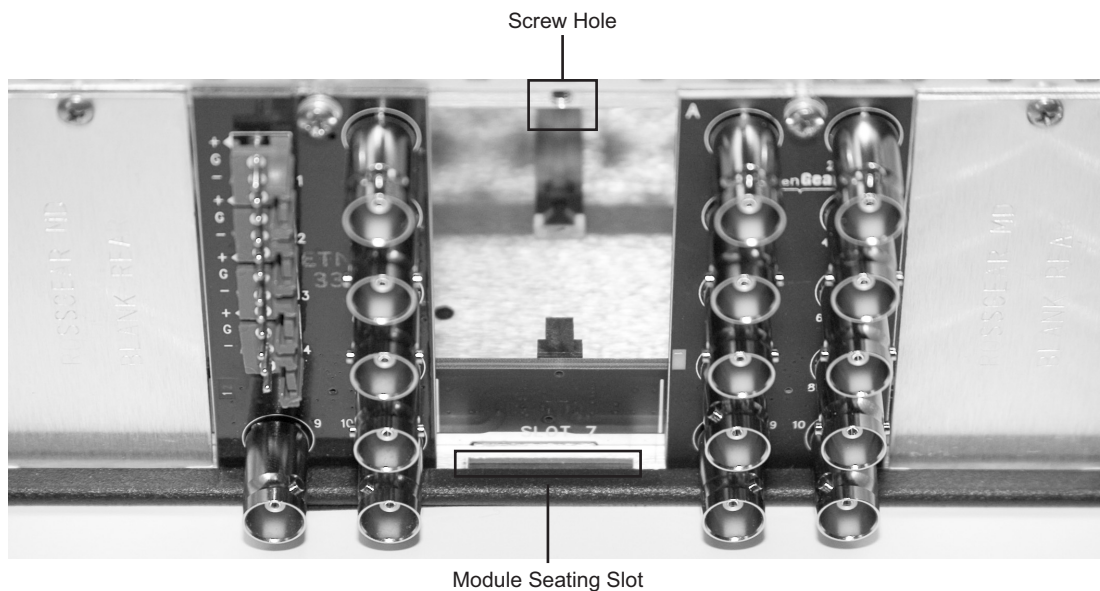

Figure 2.1 Rear Module Installation in a DFR-8310 Series Frame (UDA-8705A not shown)
3. Install the bottom of the Rear Module in the **Module Seating Slot** at the base of the frame’s back plane. (**Figure 2.1**)